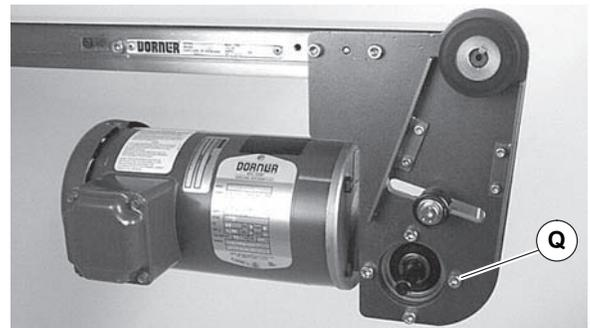

Figure 21
4. Remove four (4) gear reducer mounting screws (Figure 21, item Q). Remove gearmotor.
- Install gearmotor to mounting bracket and tighten screws (Figure 21, item Q) to 103 in-lb (12 N-m).